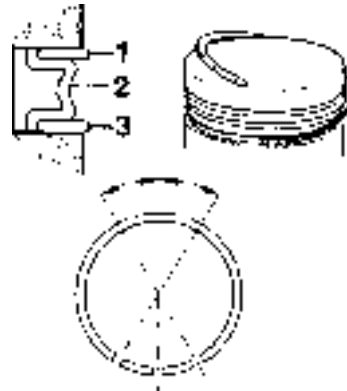

Fig. 52. Fitting of oil ring (MD2040)
MD2040: Place the expander (2, Fig. 52 on page 38) to the oil scraper rings in the piston ring groove. Check that the ends on the expander do not overlap each other. Fit the top scraper ring (1) over the the expander. Put in one end of the ring in the groove and hold it in place with your thumb. Push the ring in position with your other thumb.
Check that the scraper rings run easily in both directions and that the ends on the expander and the rings are in the correct position (Fig. 52).
MD2040: Check that the ends on the expander and scraper rings are in the correct position (Fig. 52).